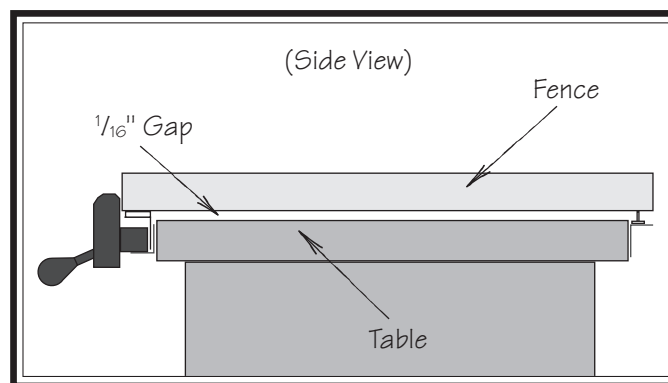

Figure 133. Gap between fence and table approximately $\frac{1}{16}$ " from front to back.
- If the gap is approximately $\frac{1}{16}$ " and even from the front of the table to the back (see **Figure 133**), then no additional adjustments are necessary. Proceed to **Clamping Pressure and Parallelism**.